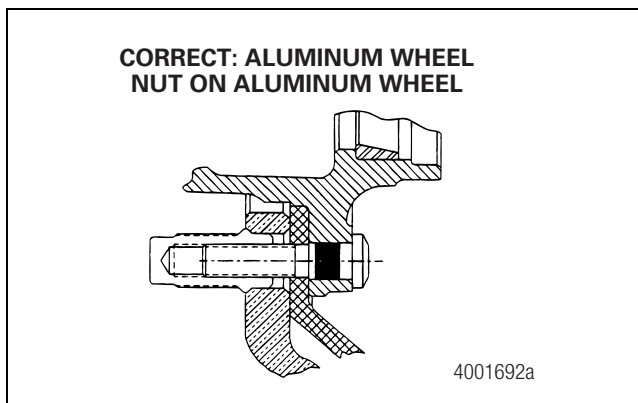
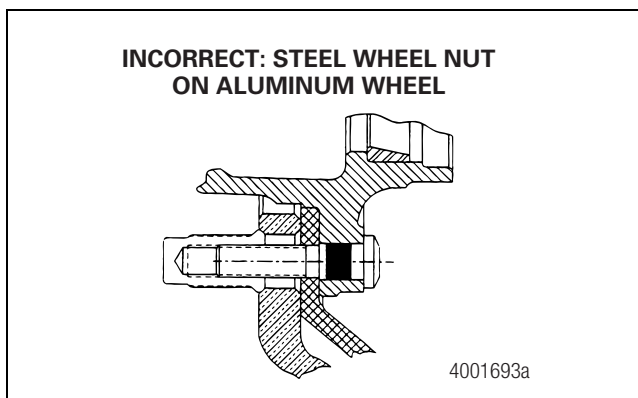

Figure 13.40
Figure 13.41
- Install 33 mm hex two-piece flange nuts into ISO 285.75 mm bolt circle diameter (BC) and ISO 335 mm BC systems.
6. Install aluminum wheel nuts onto aluminum wheels. Do not install steel wheel nuts. An aluminum wheel nut has an extension to accommodate the thickness of the aluminum. Figure 13.40 and Figure 13.41.